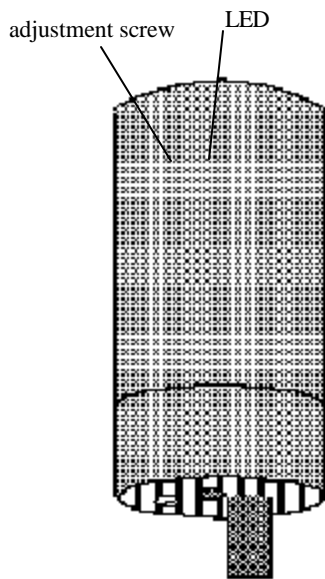

Figure 16. Capacitive Glue Sensor
2. Observe the LED on top of the sensor (Figure 16) while glue is within sensor's field of view.